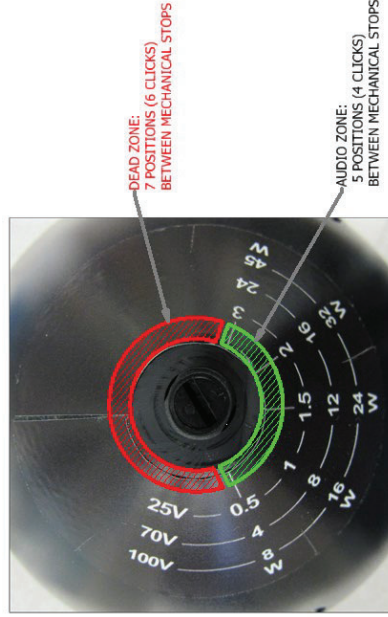

Figure 8: Power Selection Switch
- 3) To change to a higher setting, count clicks as you turn the switch counter-clockwise (Figure 8).